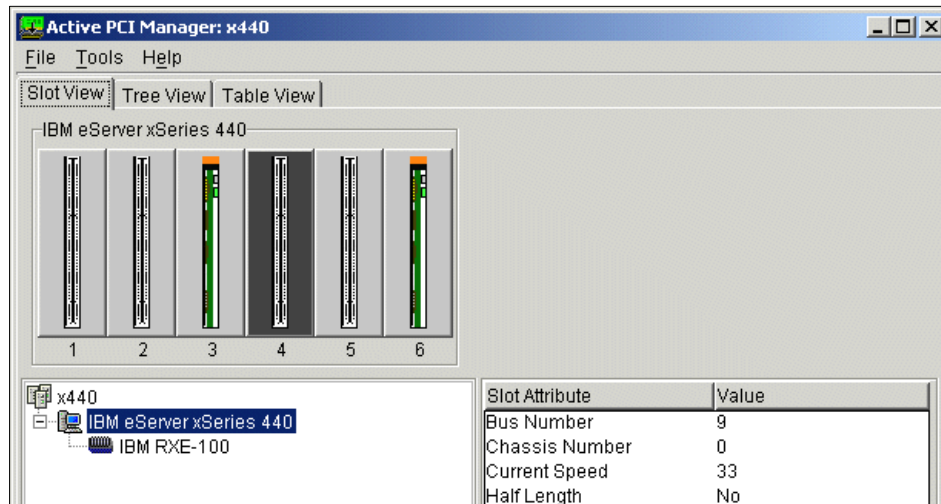

Figure 5-21 Slot 4 is empty
8. Close the adapter retainer on slot 4. The slot is then reported as empty, as shown in Figure 5-21.